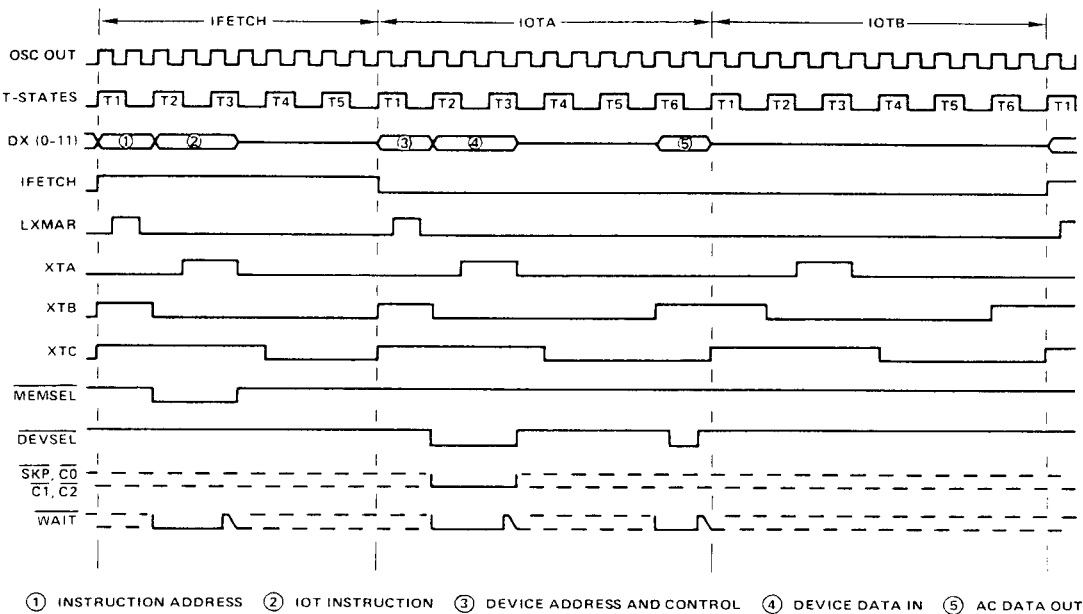

FIGURE 10 – Input-output instruction timing
Programmed Data Transfer is the easiest, simplest, most convenient and most common means of performing data I/O. For microprocessor applications, it may also be the most cost effective approach. The data transfer begins when the HM-6100 fetches an instruction from the memory and recognizes that the current instruction is an IOT (2). This is referred to as an IFETCH and consists of five (5) internal states. The HM-6100 sequences the IOT instruction through a 2-cycle execute phase referred to as IOTA and IOTB. Bits 0 - 11 of the IOT instruction are available on DX0 - 11 at IOTA ^ LXMAR (3). These bits must be latched in an external address register. DEVSEL is active low to enable data transfers between the HM-6100 and the peripheral device (4) & (5). Input-Output Instruction Timing is shown in Figure 10. The selected peripheral device communicates with the HM-6100 through 4 control lines - C0, C1, C2 and SKP. In the HM-6100 the type of data transfer, during an IOT instruction, is specified by the peripheral device(s) by asserting the control lines as shown in Tables 5-1 and 5-2.